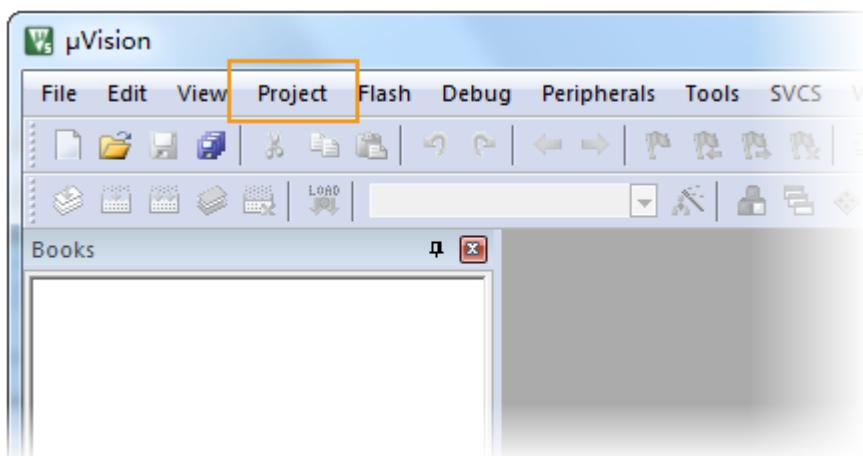

Figure 46. Importing the preconfigured project
- a) Navigate to **Project** (see Figure 46) in the µVision IDE's main menu, then **Open Project**. Click **Open** to import the project. The project file is named as <project>.uvprojx, such as the one shown in Figure 47.